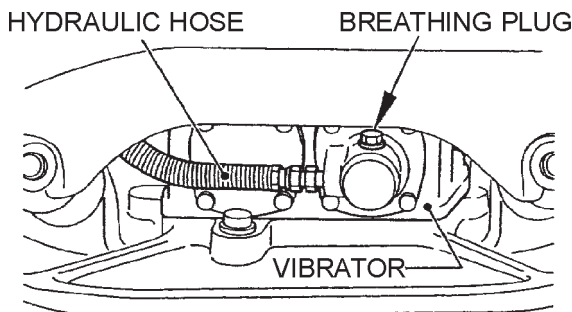

Figure 18. Hydraulic Hose
1. After removing plug cap of hand pump (Figure 7), remove plug of breather (24 mm wrench) and disconnect vibrator side of hydraulic hose (Figure 18) at vibrator cylinder. With travel lever placed in the **FORWARD** position, drain hydraulic oil in the pump.